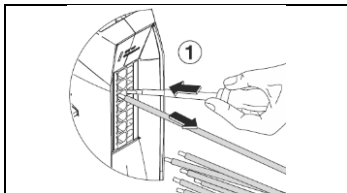

Figure 4.1
- Remove the wires (Figure 4.1.)